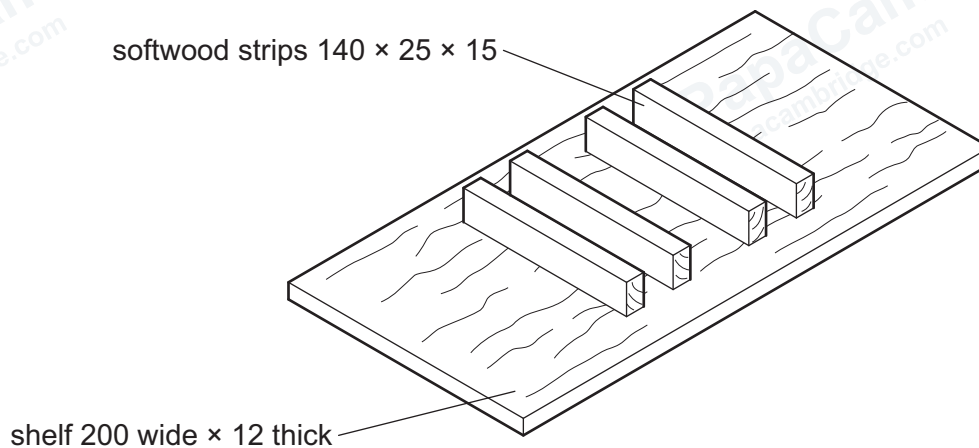

Figure 13.4
- (d) Figure 13.4 shows the underside of the top shelf. The shelf fits over the mild steel tubes.